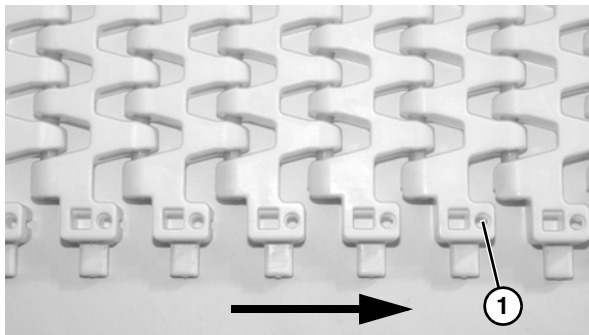

Figure 12
Ensure the belt is running in the correct direction, with hole (Figure 12, item 1) towards conveyor motor.